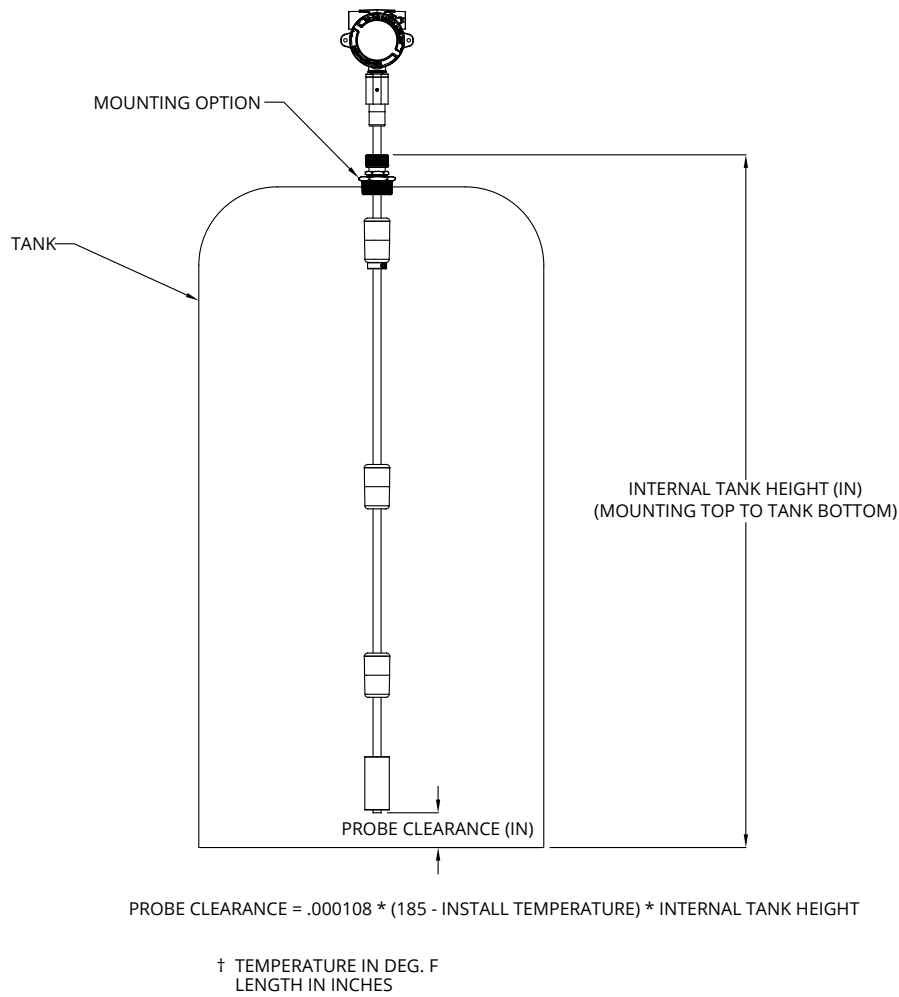

Figure 7.1
Prior to installing a PVDF-stem MPXI-F, the interior, mid-column temperature of the tank must be measured to determine the amount clearance needed at the bottom of the probe for thermal expansion. See Figure 7.1.
3. Use formula in Figure 7.1 to determine necessary clearance from bottom of probe to interior tank bottom.